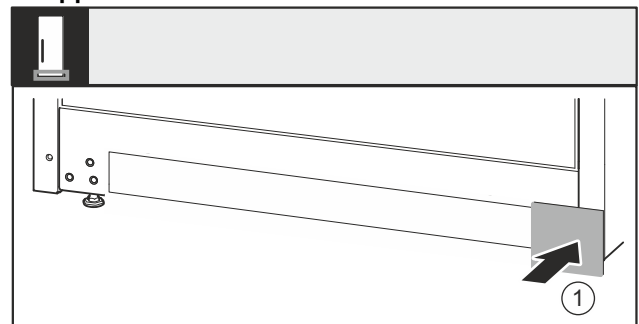

Fig. 34
- Re-attach the cover Fig. 34 (1) on the other side.